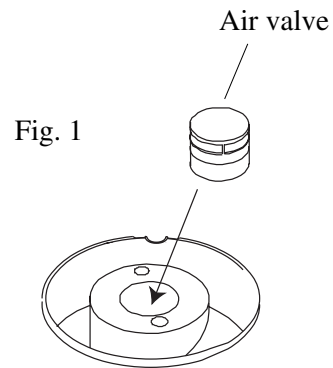

Fig. 1
1. Fit the air valve in the burner body. See fig. 1